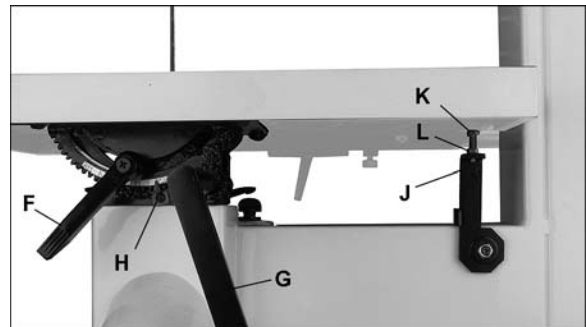

Figure 14
Refer to Figure 14.
Refer to Figures 14 and 15.
- If table and blade are not square, use a 13mm wrench to loosen lock nut (L, Figure 14) then rotate stop bolt (M). Turn stop bolt as needed until there is no longer light showing between square and blade.
- Tighten lock nut (L) to secure table stop in position.
- Tighten lock handle (F).
- Check that scale pointer (H) is at zero. If necessary, loosen screw on pointer and shift pointer to zero. Re-tighten screw.